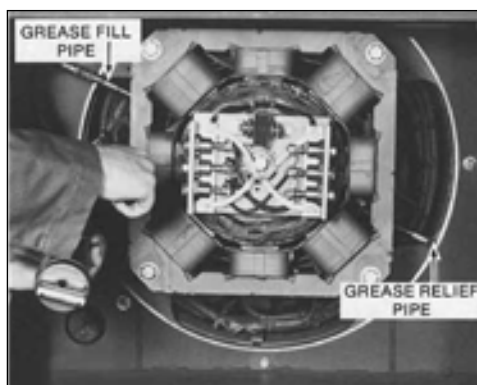

Figure 5-2
3. Remove fill and drain plugs (figure 5-2).